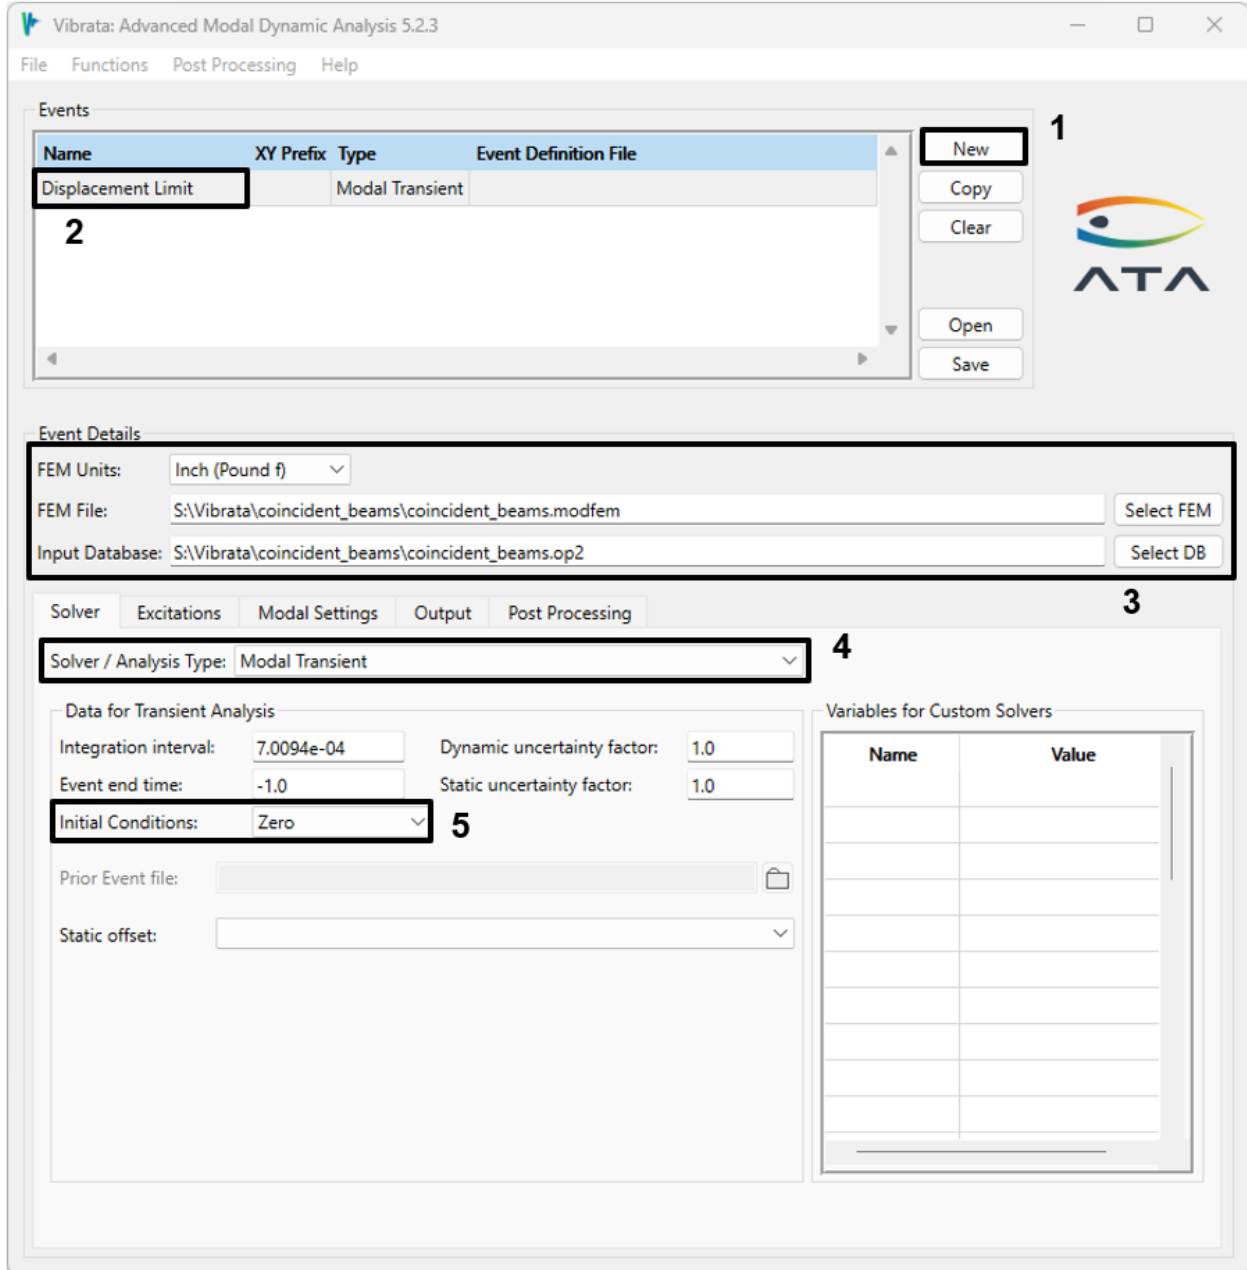

Figure 4-124. Solver setup for frame model transient analysis.
2. In the Event Manager, set up a new transient event and select the concentric beam's modfem file and the OP2 file "coincident\_beams.op2." Set the event name to "Displacement Limit." Set the initial conditions to Zero, as shown in Figure 4-124.